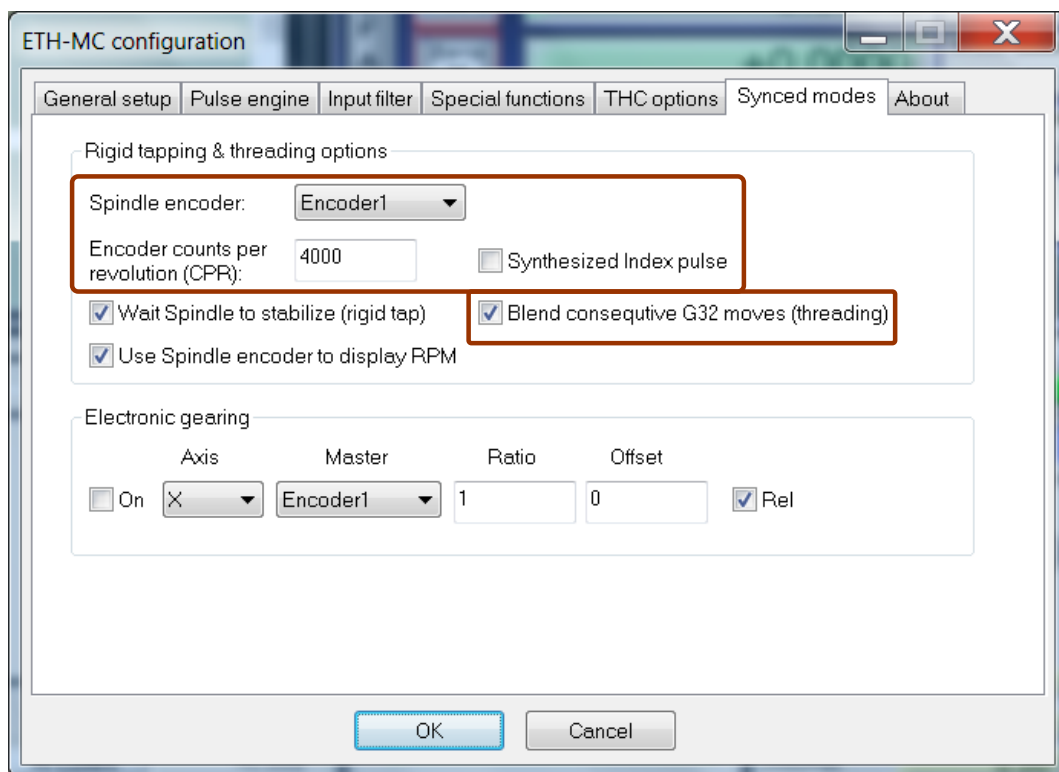

Figure 3.24 Lathe threading options
- Adjusted options for lathe threading (Figure 3.24),
Figure 3.24 shows the options of ETH-MC(-BOX) motion controller that are related to threading.